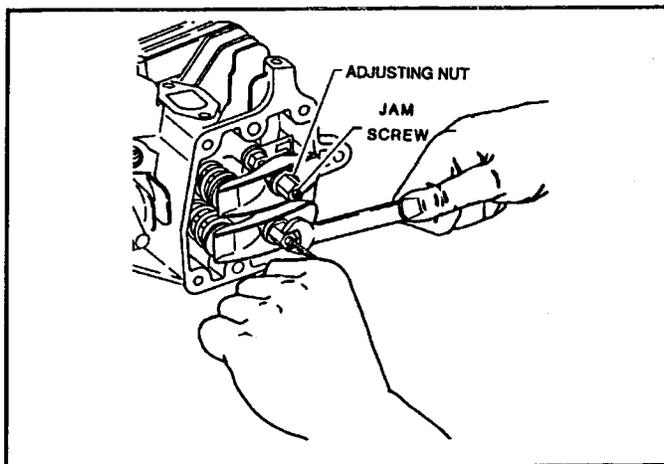

Figure 57
1. Hold the rocker arm adjusting nut with a 10 mm wrench and loosen the socket head jam screw with a 3 mm hex key. See Figure 57.